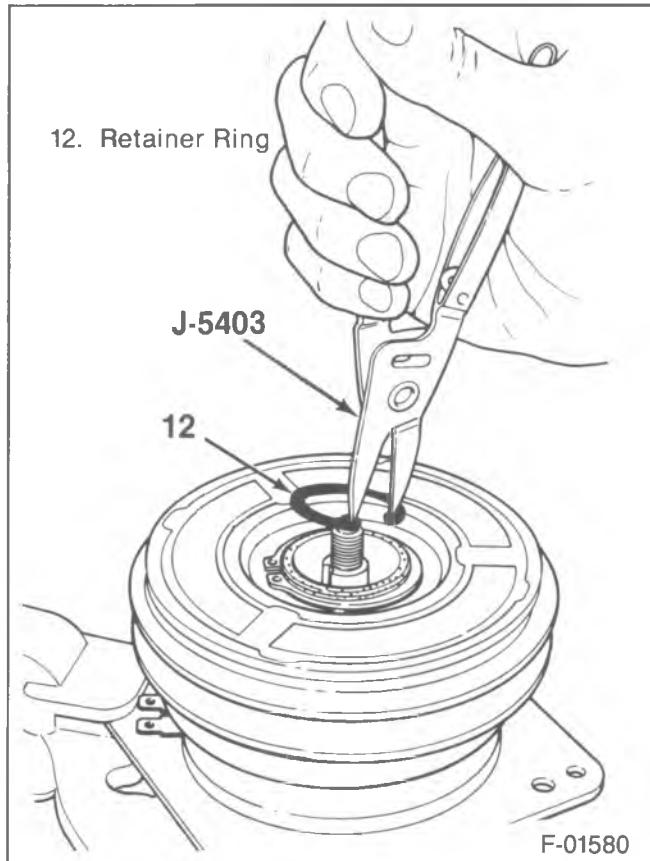
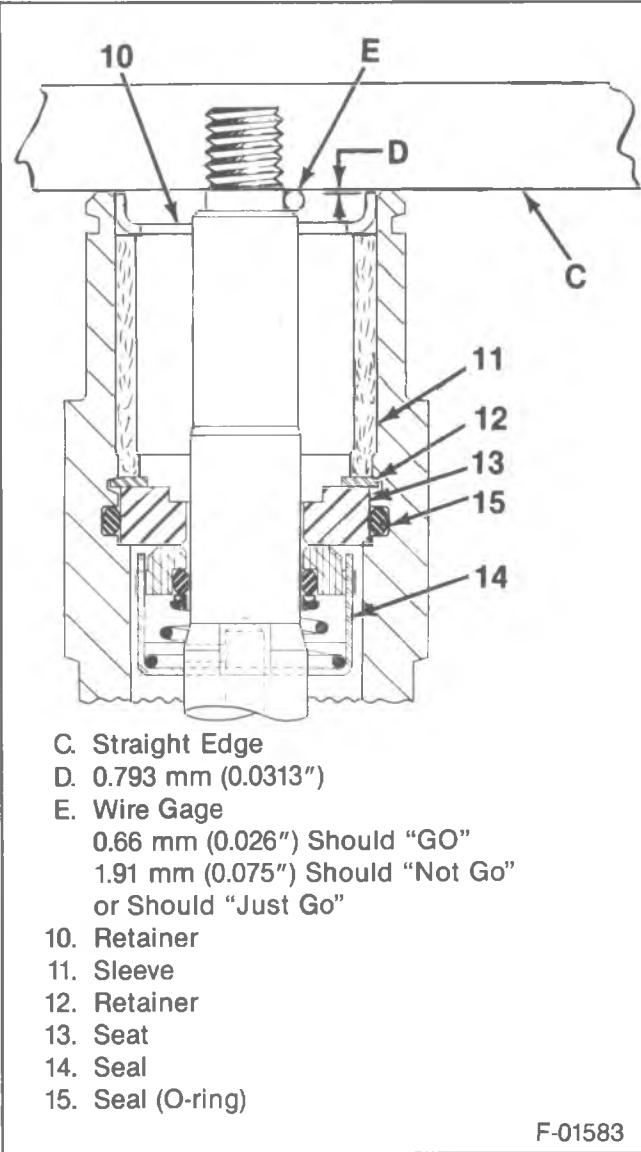

Figure 13—Removing/Installing the Shaft Seal Retaining Ring
Figure 16—Shaft and Seal Position and Correct Position Gaging Guide
- The inside of the compressor around the shaft (38). Prevent dust and dirt from entering the compressor.
2. Sleeve retainer (10).
3. Absorbent felt sleeve (11).
4. Shaft seat retaining ring (12) with J-5403 (figure 13).
- Do not dislodge the seal (O-ring) (15).
4. Seal shaft retainer ring (12) with J-5403 (figure 13).
6. Shaft nut (1) with J-9399.
- Replace shaft nut (1) with a new one.
7. New absorbent sleeve (11).
8. Sleeve retainer (10) with J-9393.
- Press and tap with a mallet to set the retainer and sleeve into place. Place the retainer 0.7937 mm (0.03125-inch) from the face of the compressor neck (figure 16).
9. Clutch plate and hub assembly (2).
- To check the position of the axial plate on the shaft, remove the clutch driven plate and measure the distance between the front head extension and the flat shoulder on the shaft with a wire gage. The clearance should be 0.66–1.9 mm (0.026–0.075-inch) (figure 16).